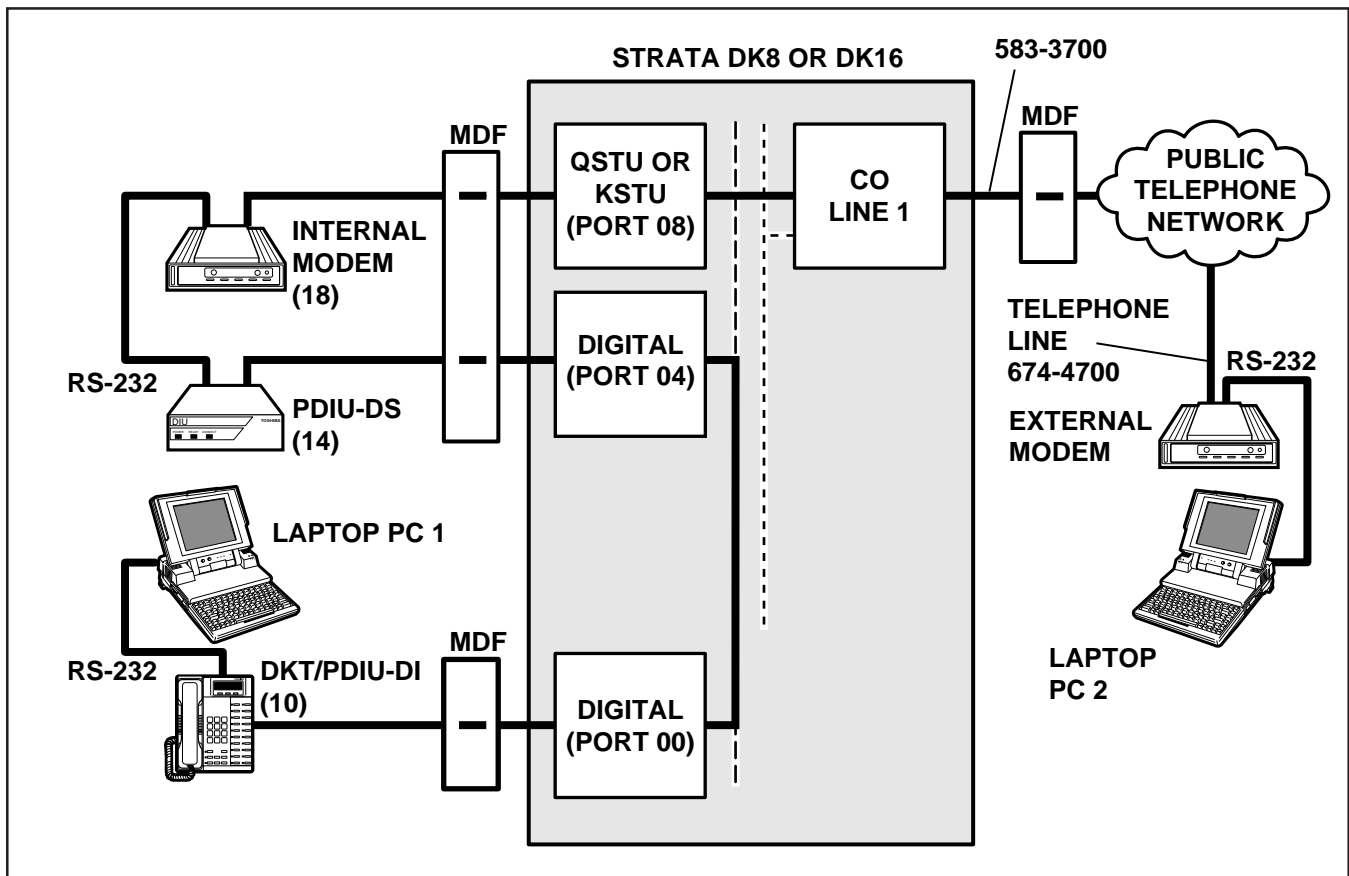

FIGURE 7-37
- The internal modem (18) goes off-hook, dials 701 to seize the CO line, and then dials the external modem's telephone number (674-4700).
10.85 External PC to Internal PC Test Call Using AT Commands (see Figure 7-37)